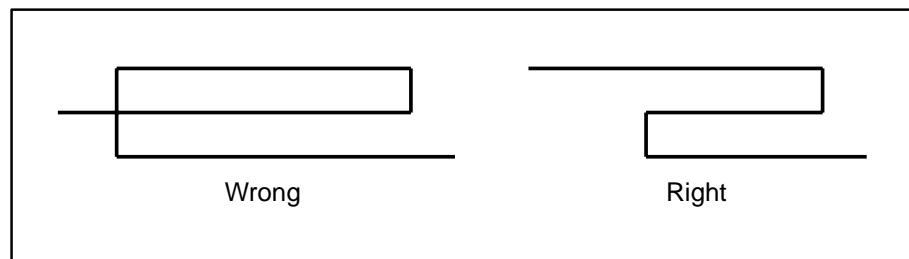

Figure 33 Forming a loop of excess cable
- Place excess cable in the cable tray, forming S-curve(s) as shown in figure 33.